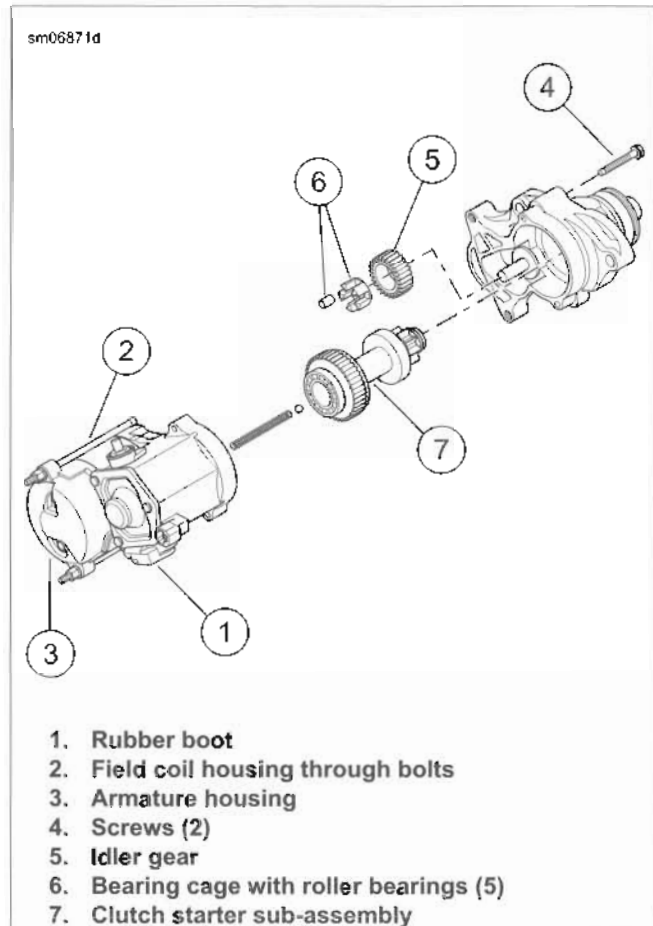

Figure 7-26. Clutch Starter Sub-Assembly and Housing
3. See Figure 7-26. Pull up rubber boot (1). Remove hex nut with captive lockwasher. Release field wire from terminal post on solenoid housing.
4. Loosen two through bolts (2) to release field coil housing from solenoid housing.
2. See Figure 7-26. Verify that the idler gear (5) rotates freely without drag or sticking.
4. Inspect roller bearings (6). Bearings must rotate freely without drag or sticking. Replace starter motor if the bearings are pitted or grooved.
1. See Figure 7-26. Assemble starter.
- b. Install bearing cage with five roller bearings (6) onto shaft in drive housing.
- c. Confirm that all five roller bearings are installed in grooves of bearing cage and install idler gear (5) over bearing cage.
2. Lubricate bearings with LUBRIPLATE 110 before installation. Install **new** clutch starter sub assembly (7) in drive housing seating the larger bearing in the counterbore.